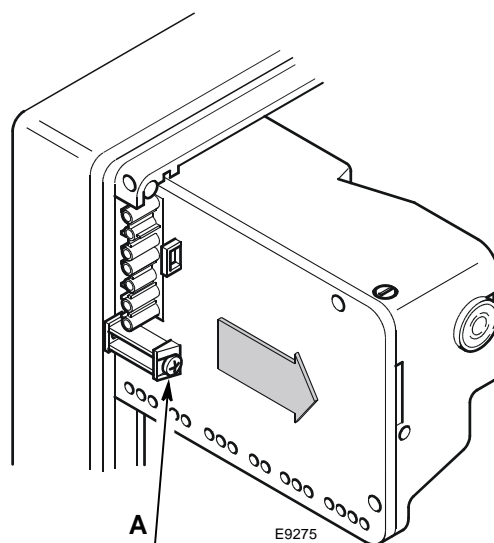

Fig. 13
- unscrew the bolt **A** (Fig. 13) and pull the control box in the direction of the arrow.